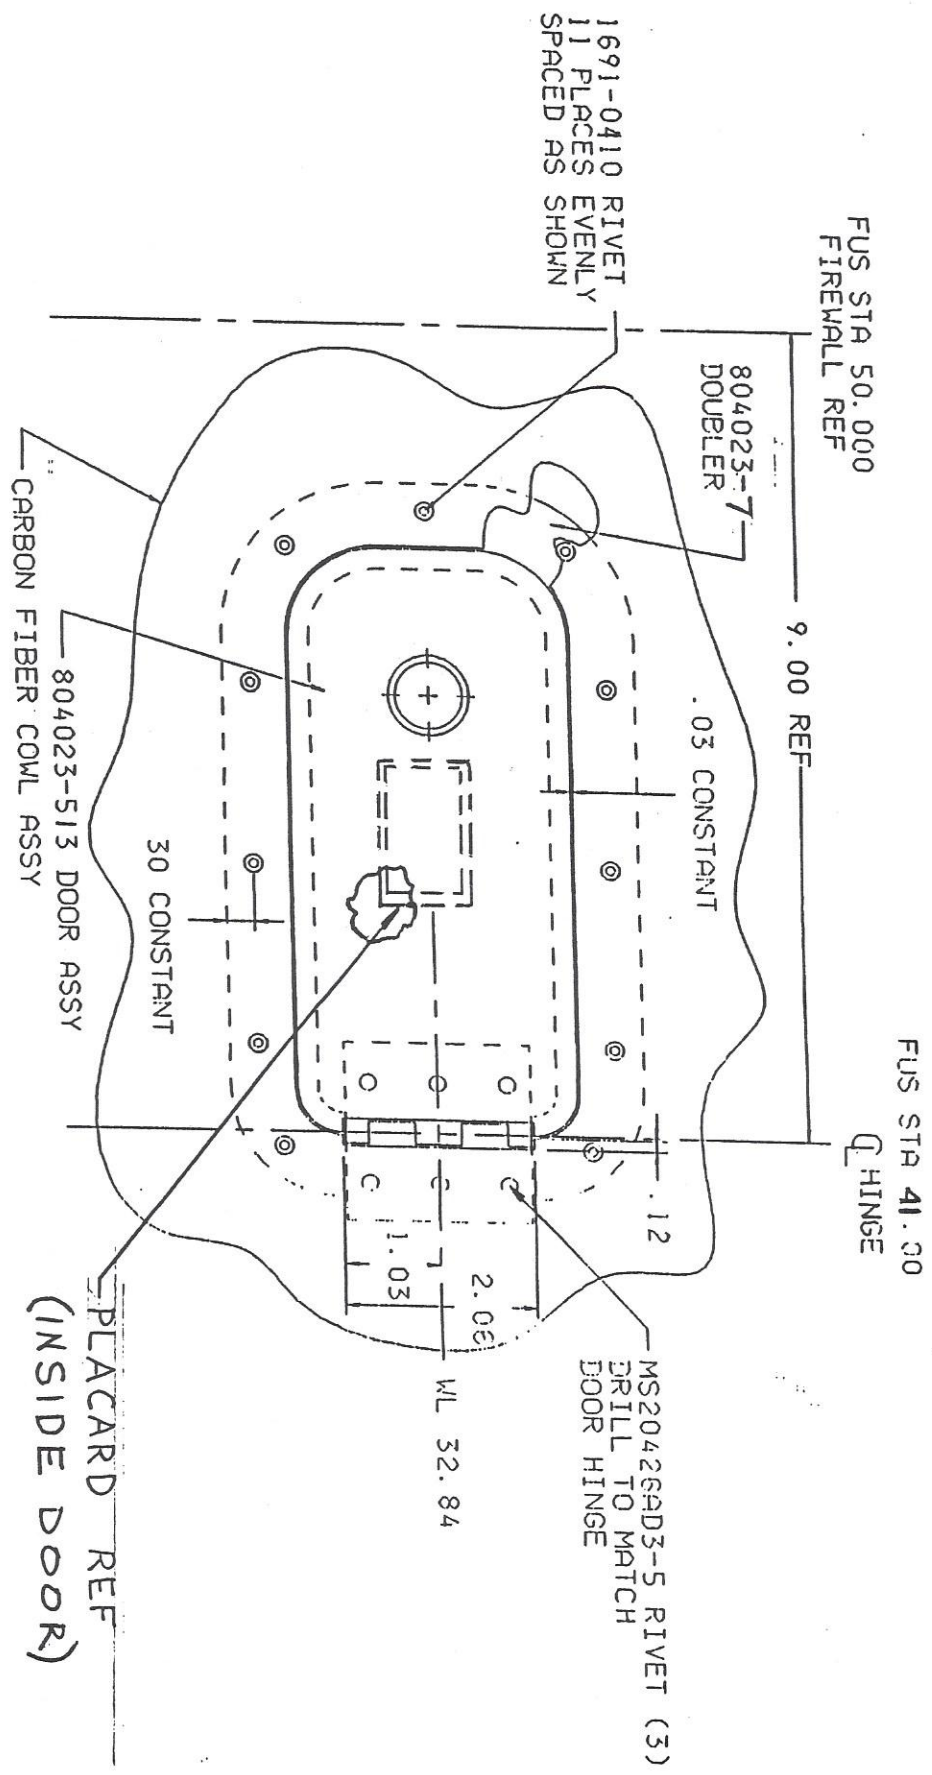

FIGURE 2
- B-3 Mark the cutout on the cowl shown in Figure 2 using a grease pencil or other suitable marking device. Carefully cut out the area. When the cutout has been completed seal the exposed edges of carbon fiber with resin.
- B-4 Position the 804023-7 doubler as shown in Figure 2 and drill 10 holes through the cowl and doubler for the 1691-0410 rivets called out using a #30 drill bit.
- B-6 Locate 804023-513 door assembly per Figure 2 and drill three holes through cowl and doubler to match the hinge. Install the door using three resin coated MS20426AD3-5 rivets.